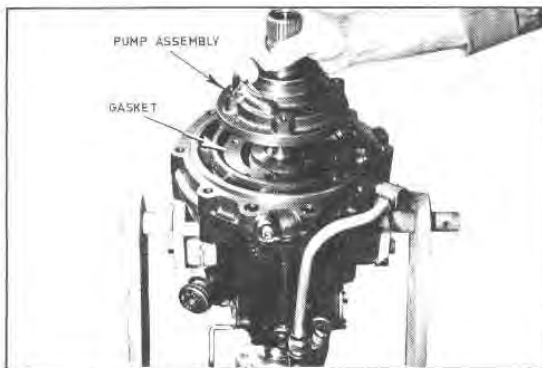

Fig. G86 — Installing the Pump Assembly
56. With the forward and reverse transmission case and associated parts, assembled in steps (1) to (49) position the pump gasket on the pump mounting face of the adaptor. Lower the pump assembly over the input shaft and onto the mounting face of the adaptor (Figure G86).